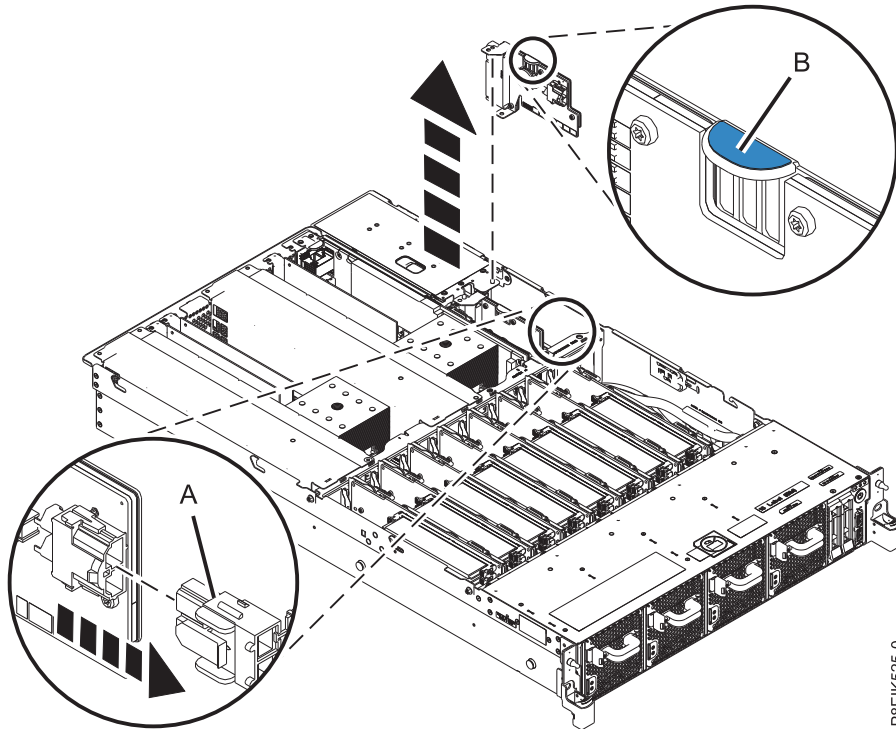

Figure 99. Removing a power riser from the system
- a. If applicable, disconnect the fan power cable from the power riser **(A)** in Figure 99 on page 84, by pressing the latch release lever with your thumb.
- b. Pull out the power riser from the slot by holding the blue tab. See **(B)** in Figure 99 on page 84.